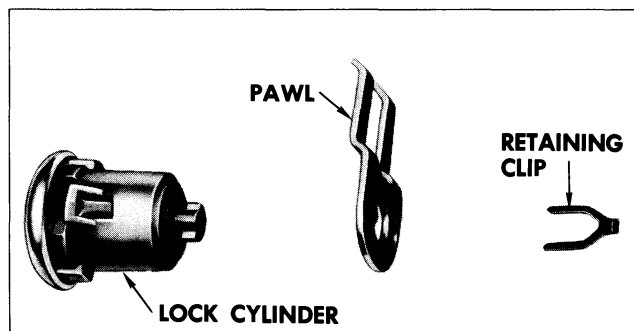

Fig. 12-32 Lock Cylinder
2. With a suitable tool, remove retaining clip and pawl. (Fig. 12-32).